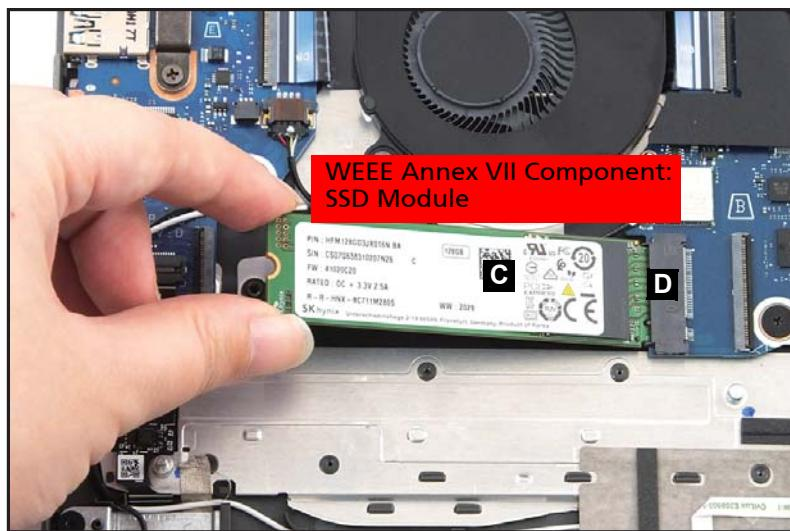

Figure 1-16. SSD Module Removal
3. Remove the SSD module (C) from the mainboard connector (D) (Figure 1-16).